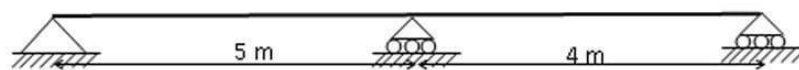

Figure 6
8. Draw the influence line diagram for the reaction at intermediate support of a continuous beam shown in figure 6. [15]